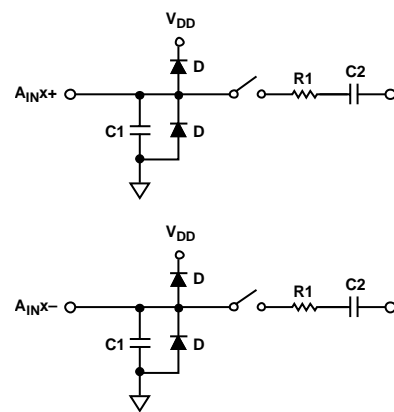

Figure 31. Equivalent Analog Input Circuit, Conversion Phase—Switches Open, Track Phase—Switches Closed
Figure 31 shows the equivalent analog input circuit of the AD7383 and the AD7384. The four diodes (D) provide ESD protection for the analog inputs. Ensure that the analog input signals do not exceed the supply rails by more than 300 mV. Exceeding the limit causes these diodes to become forward-biased and start conducting into the substrate. These diodes can conduct up to 10 mA without causing irreversible damage to the devices.
The C1 capacitors in Figure 31 are typically 3 pF and can primarily be attributed to pin capacitance. The R1 resistors are lumped components made up of the on resistance of the switches. The value of these resistors is typically about 200  $\Omega$ . The C2 capacitors are sampling capacitors of the ADC with a capacitance of 15 pF typically.